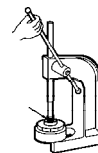

Figure 5
- To remove the bushing, place the impeller assembly (item 2) in an arbor press. Insert a 3/4" diameter plastic or wood shaft through the eye of the impeller and press bushing out. Refer to Figure 5.